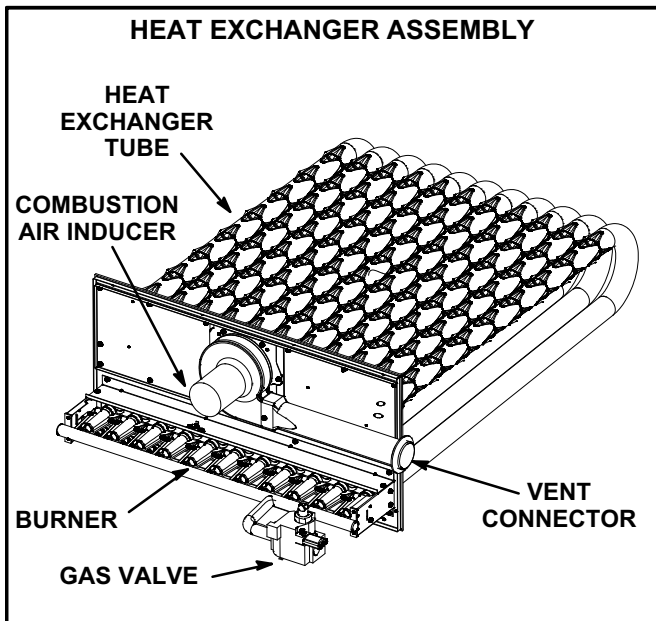

FIGURE 24
- 3- Remove and retain screws securing combustion air inducer to flue box. Remove vent connector. See figure 24.